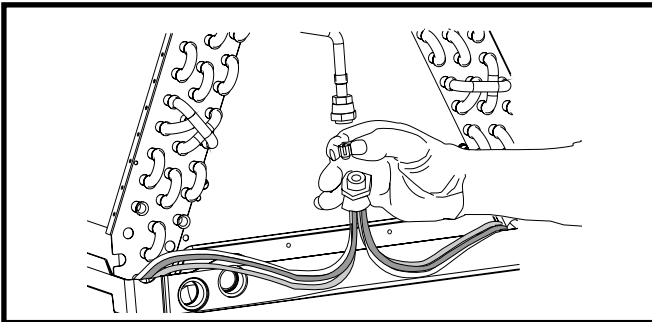

Figure 7. Restrictor Insertion into Distributor Body
8. Insert the new orifice into the distributor body, rounded end down. See Figure 7 (page 9).